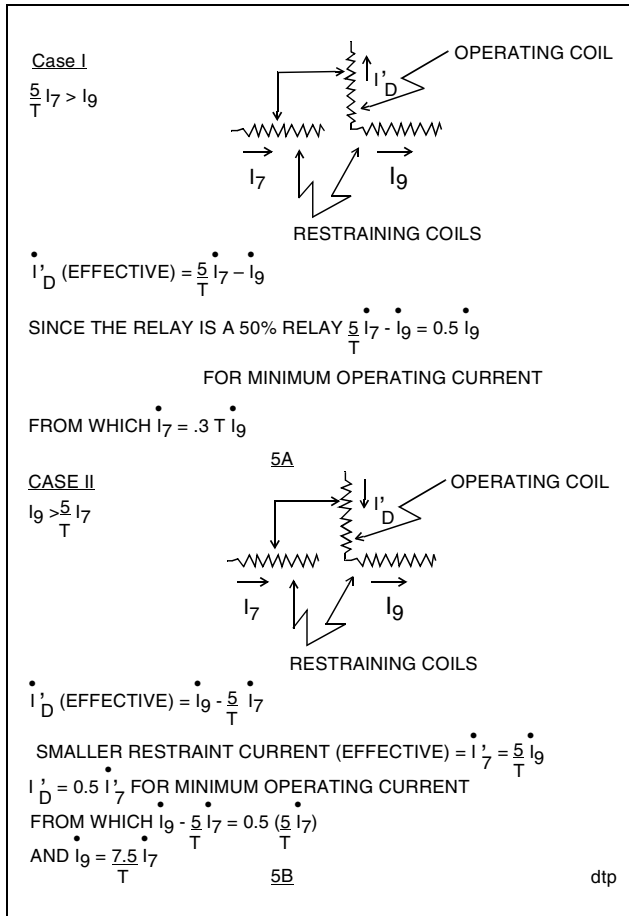

Figure 7. Fundamental Relationships in the Type CA Electromagnet.
The derivations of Equations (1) and (2) are given in Figure 7, which has been included to illustrate the meaning of these equations.